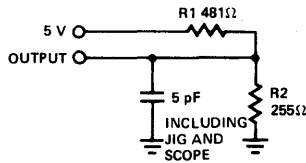

Figure 1b
6. tHZOE, tHZCS and tHZWE are tested with CL = 5 pF as in Figure 1b. Transition is measured ± 500 mV from steady state voltage.